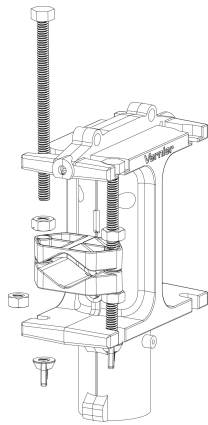

Figure 4
- Secure the second bolt with another wing nut, repeating what was done for the first bolt (see Figure 4).